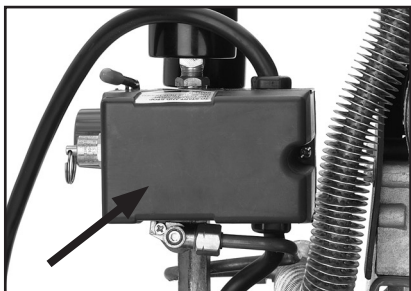

Figure 16. Pressure switch cover.
4. Remove the black AUTO/OFF switch cover (Figure 16) by removing the screw in the recess of the cover. Pull the black cover up and set it aside.